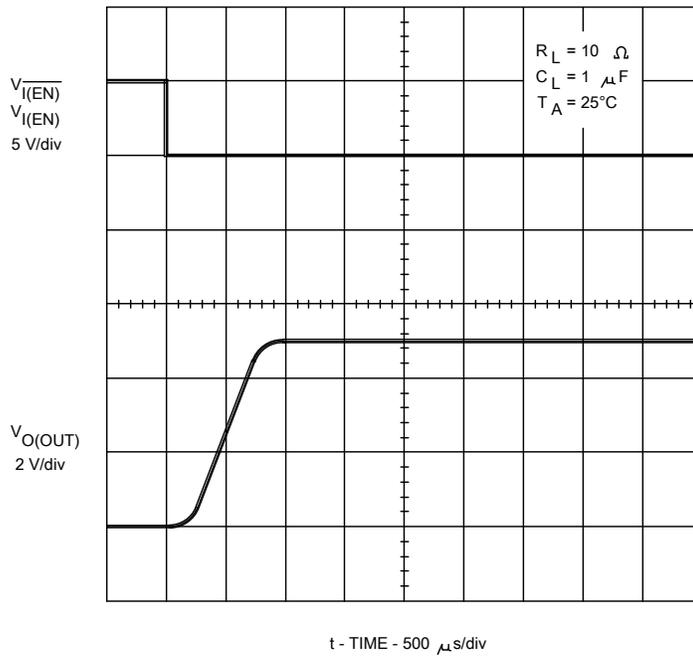

FIGURE 5. Turn-On delay and rise time with 1 μF load.
3.5.5 Turn on delay and rise time with 1 μ F load. The turn on delay and rise time with 1 μ F load shall be as shown in figure 5.